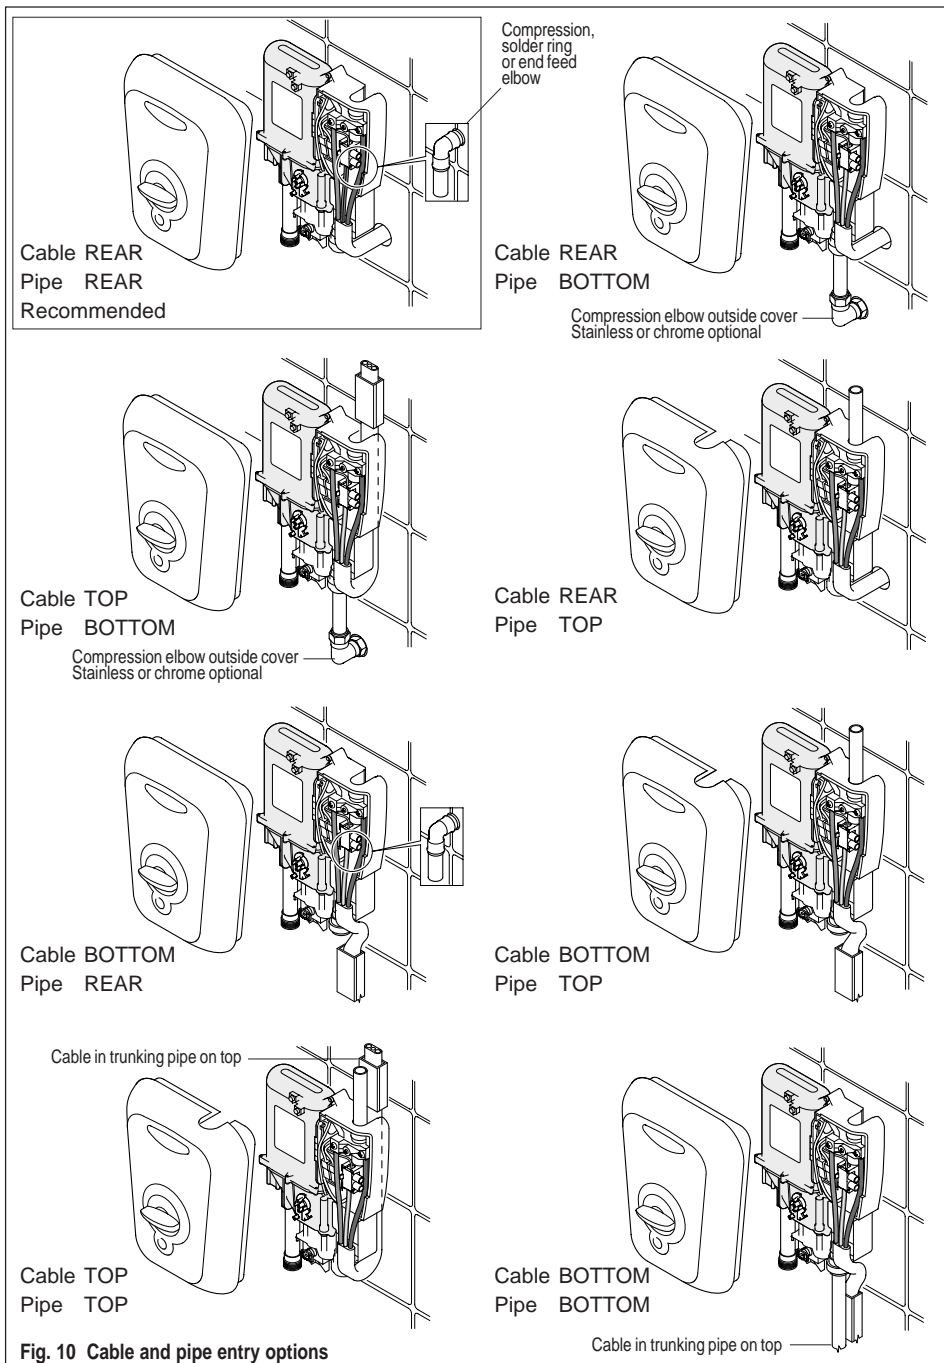

Fig. 10 Cable and pipe entry options
5.2.2 Fig. 10, page 10, shows pipe and cable entry options.
5.4.5 Where both pipe and cable are arranged for top or bottom entry, the pipe should be on top of the trunking as shown in fig. 10.